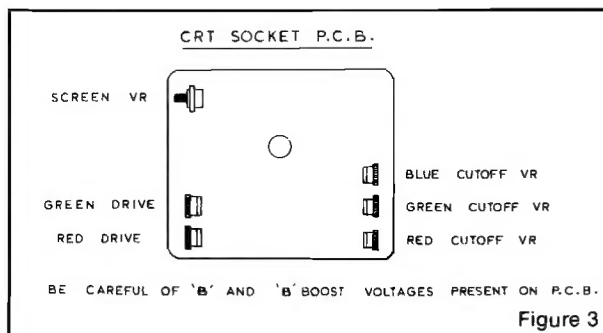

Figure 3
- 1.5 Turn off the green and blue fields and adjust setup controls to produce a red field. (See fig. 3)
Refer to figure 3. Do the following in subdued light: